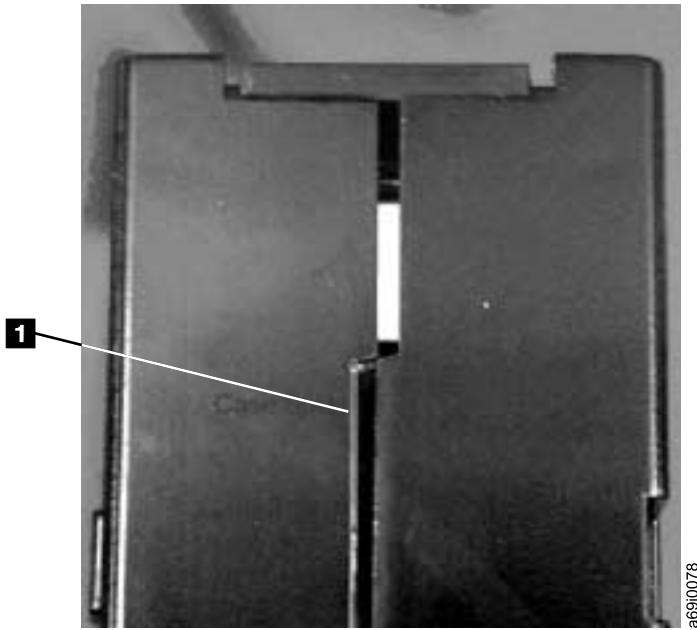
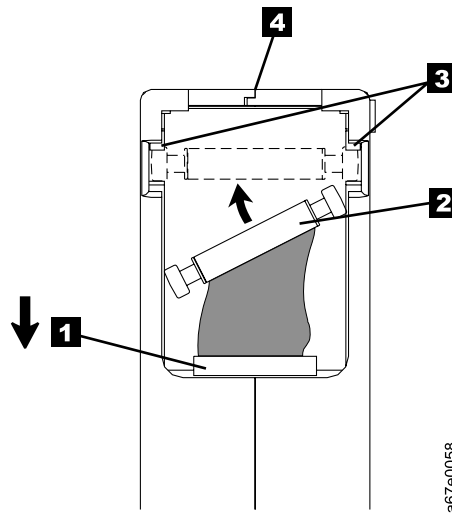

Figure 12. Checking for gaps in the seams of a cartridge
Figure 14. Placing the dislodged leader pin into the correct position. The cartridge door is open to show the leader pin.
- Inspect the rear of the cartridge (the part that you load first into the tape load compartment) and ensure that there are no gaps in the seam of the cartridge case (see **1** in Figure 12 on page 33 and **4** in Figure 14 on page 36). If there are gaps in the seam (see Figure 12 on page 33), the leader pin may be dislodged. Go to “Repositioning or Reattaching a Leader Pin” on page 35.
### Example: Split Cartridge Case (see Figure 12 on page 33)
1. Slide open the cartridge door ( **1** in Figure 14) and locate the leader pin **2** (you may need to shake the cartridge gently to roll the pin toward the door).